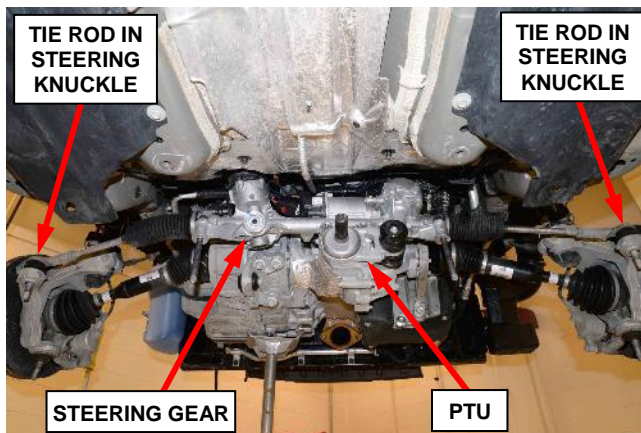

Figure 76 – Steering Gear Supported
53. Keep the steering gear supported on the top of PTU assembly also tie rod ends loosely placed in steering knuckle for additional support (Figure 76).